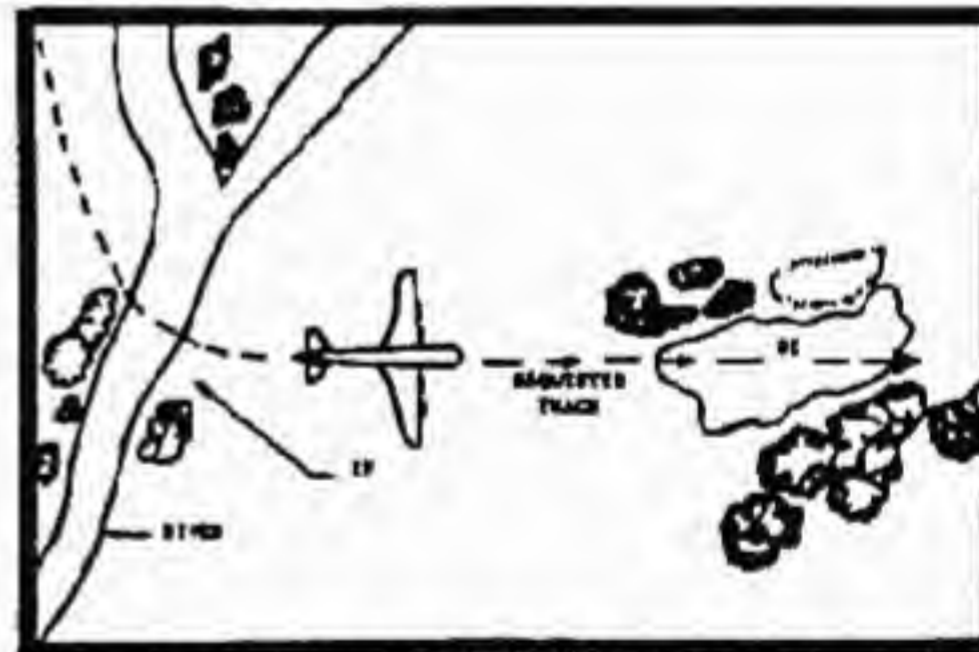

Figure 5. Relationship between IP and requested track
- (7) Date/time drop requested.
- (8) Name requested. Extracted from the catalog supply system.
b. Additional Items. In special situations, additional items may be required, e.g., additional reference points, navigational check points in the vicinity of the DZ, special recognition and authentication means. Sub-paragraphs (7) and (8) above are included only when requesting a resupply mission in conjunction with the reporting of the DZ.
d. Initial Points (IP's). It is desirable to reconcile the requested aircraft track with an identifiable landmark that may be used by the aircrew as an initial point (IP). The IP, located at a distance of 5 to 15 miles (8-24 kilometers) from the DZ, is the final navigational checkpoint prior to reaching the target. Upon reaching the IP, the pilot turns to a predetermined magnetic heading that takes him over the DZ within a certain number of minutes (Figure 5). The following features constitute suitable IP's: